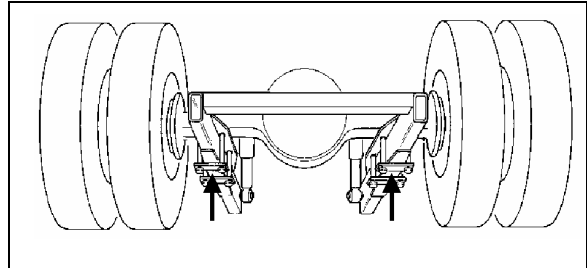
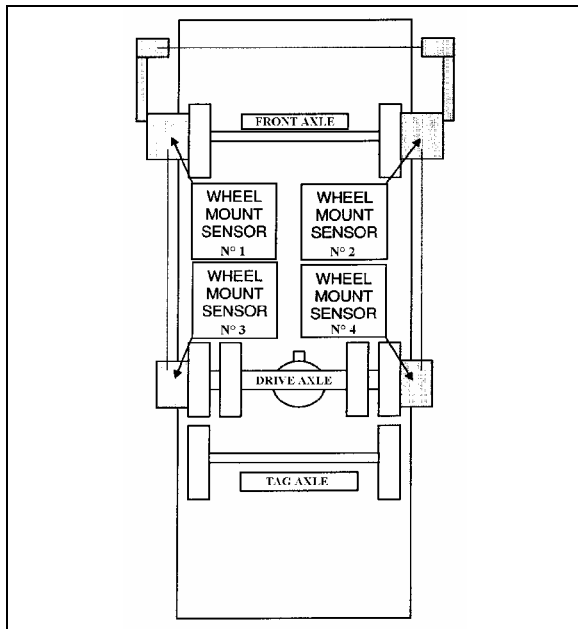

FIGURE 6: JACKING POINTS ON DRIVE AXLE H3B762
FIGURE 8: FRONT & DRIVE AXLE ALIGNMENT 11025
8. Install jacks under the axle jacking points to support the axle weight (refer to figure 6).
- Remove and reinstall all wheel mount sensors on the drive and tag axles (fig. 8);
Reinstall wheel mount sensors as shown in figure 8. For example, the sensor from the right side of the front axle is mounted on the left side of the tag axle. For corresponding wheel mount sensor reference numbers, refer to figure 6.